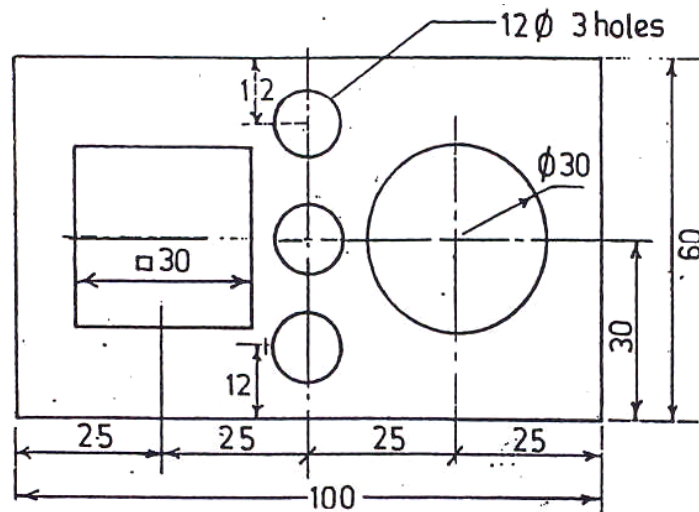

Fig. 1
1. Read the dimensioned drawing shown in fig.1. Redraw the figure to full size and dimension it as per Indian Standards.